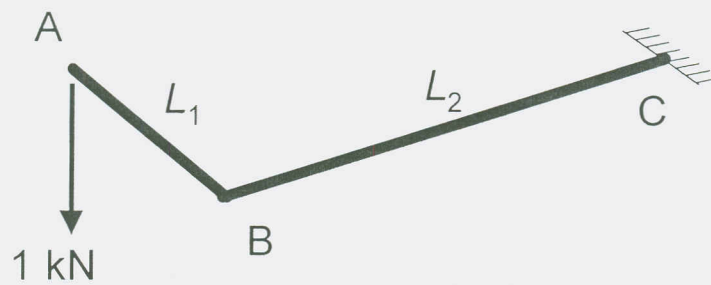

Fig Q6
- (c) The bent cantilever shown in Fig Q6 has a circular hollow section, $D_i = 10$ mm, $D_o = 20$ mm for section AB and a circular hollow section $D_i = 20$ mm, $D_o = 30$ mm for section BC. L_1 is 200 mm and L_2 is 400 mm. The material is steel with $E = 200$ GPa, $G = 70$ GPa. The load is 1 kN. Determine the vertical deflection at point A.